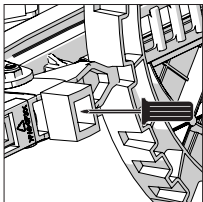

Fig. 13
- Remove and safely store the stability block from underneath the positive stop locking lever. **(Fig. 13)**